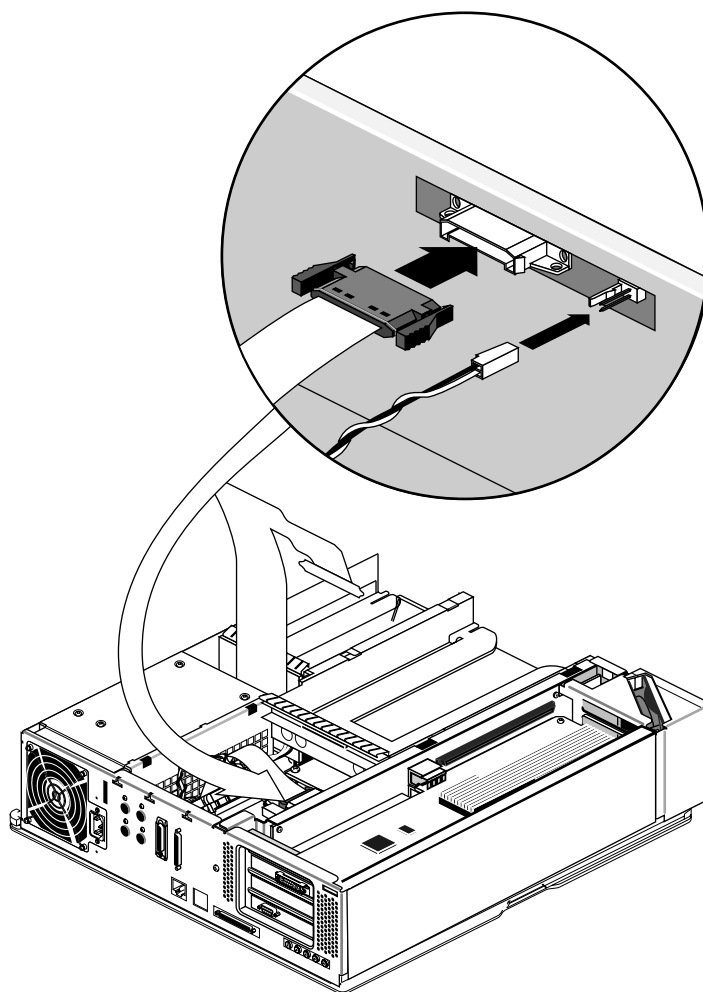

Figure 5-68 Connecting Midplane Power Cables
- Pinch together the corrugated edges on the ribbon cable connector, and connect it to the midplane. See Figure 5-68.